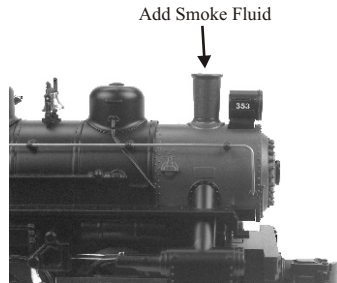

Figure 4: Add Smoke Fluid
1. You should prime the operating smoke unit with smoke fluid before operating. Add 15-20 drops of smoke fluid through the smokestack, then gently blow into the stack to eliminate any air bubbles in the fluid. (See Fig. 4 on page 11)
- When preparing to run this engine, add 15-20 drops of smoke fluid through the smokestack. (see figure 4) We recommend M.T.H. ProtoSmoke, Seuth, LGB, or LVTS fluids (a small pipette of ProtoSmoke fluid is included). Do not over fill the unit or the fluid may leak out and coat the interior engine components.